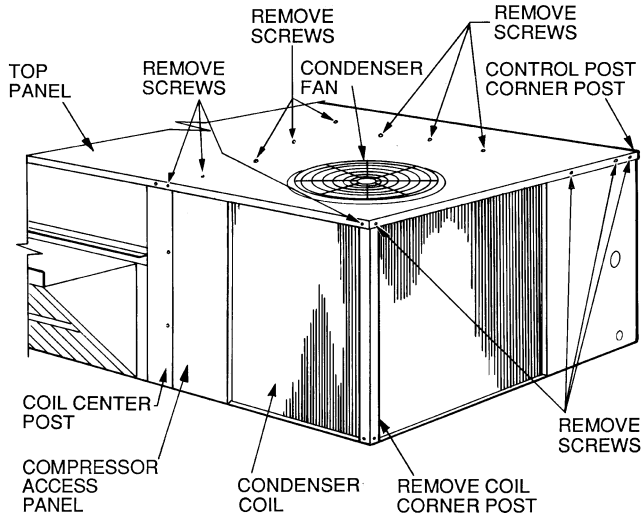
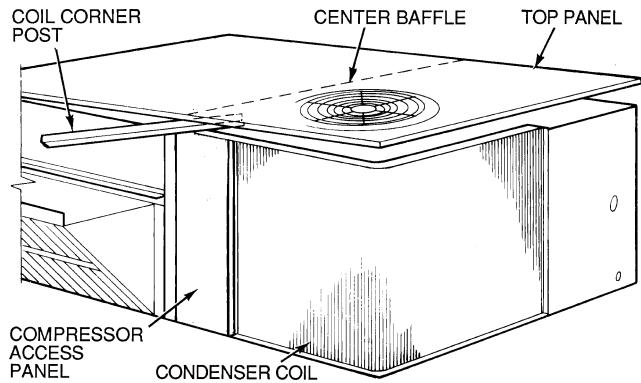

Fig. 39 — Cleaning Condenser Coil
Fig. 40 — Propping Up Top Panel
3. Remove condenser coil corner post. See Fig. 39. To hold top panel open, place coil corner post between top panel and center post. See Fig. 40.